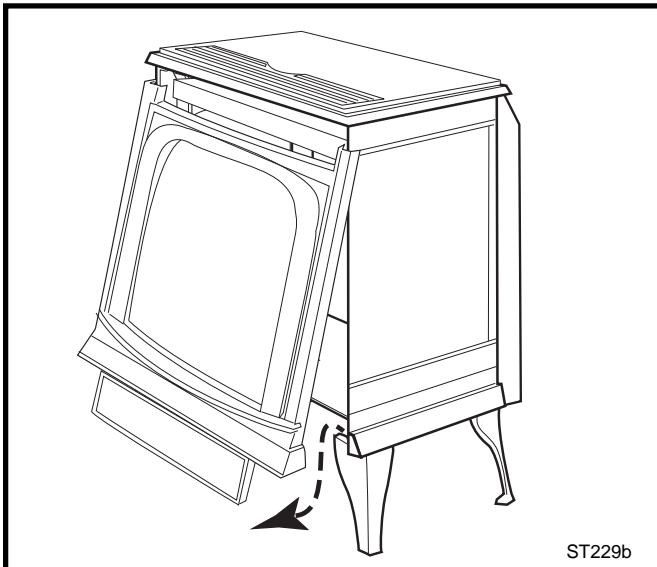

Fig. 4 Remove stove front.
- Lift the stove front up and then swing the bottom out and away to disengage it from the stove body. (Fig. 4) Cut the wire tie securing the screen.